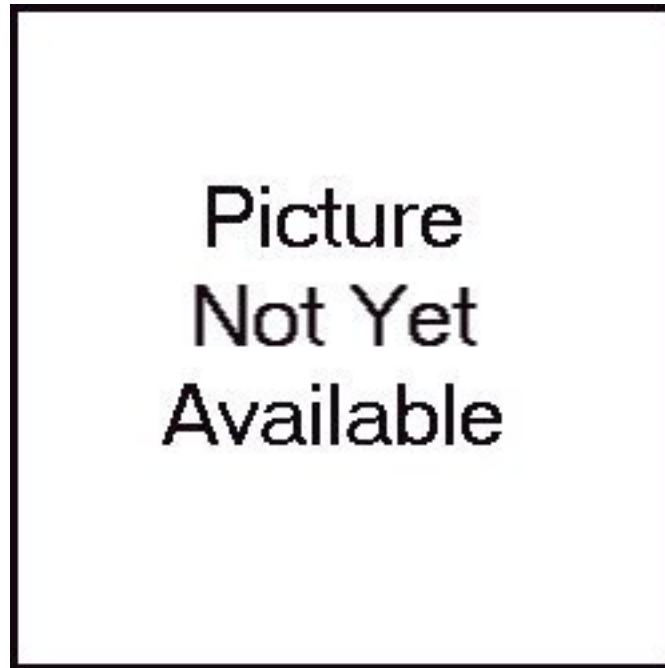

Figure 5 - Rear Window Lower Trim
2.1 Rear Window Trim. Loosen the two screws holding the rear window lower trim (Figure 5) and remove the trim. Loosen the screws holding the rear window surround trim and remove the surround trim. Set the rear window lower trim piece and screws aside since you'll be reinstalling them later. The rear window surround trim and screws will not be reused.